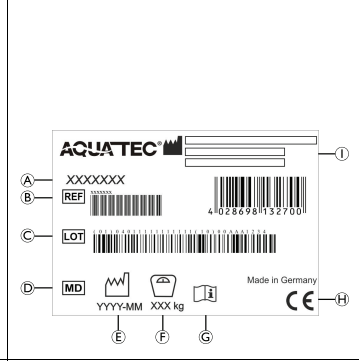

Fig. 6
6.2 Labels and symbols on the product (Fig. 6)